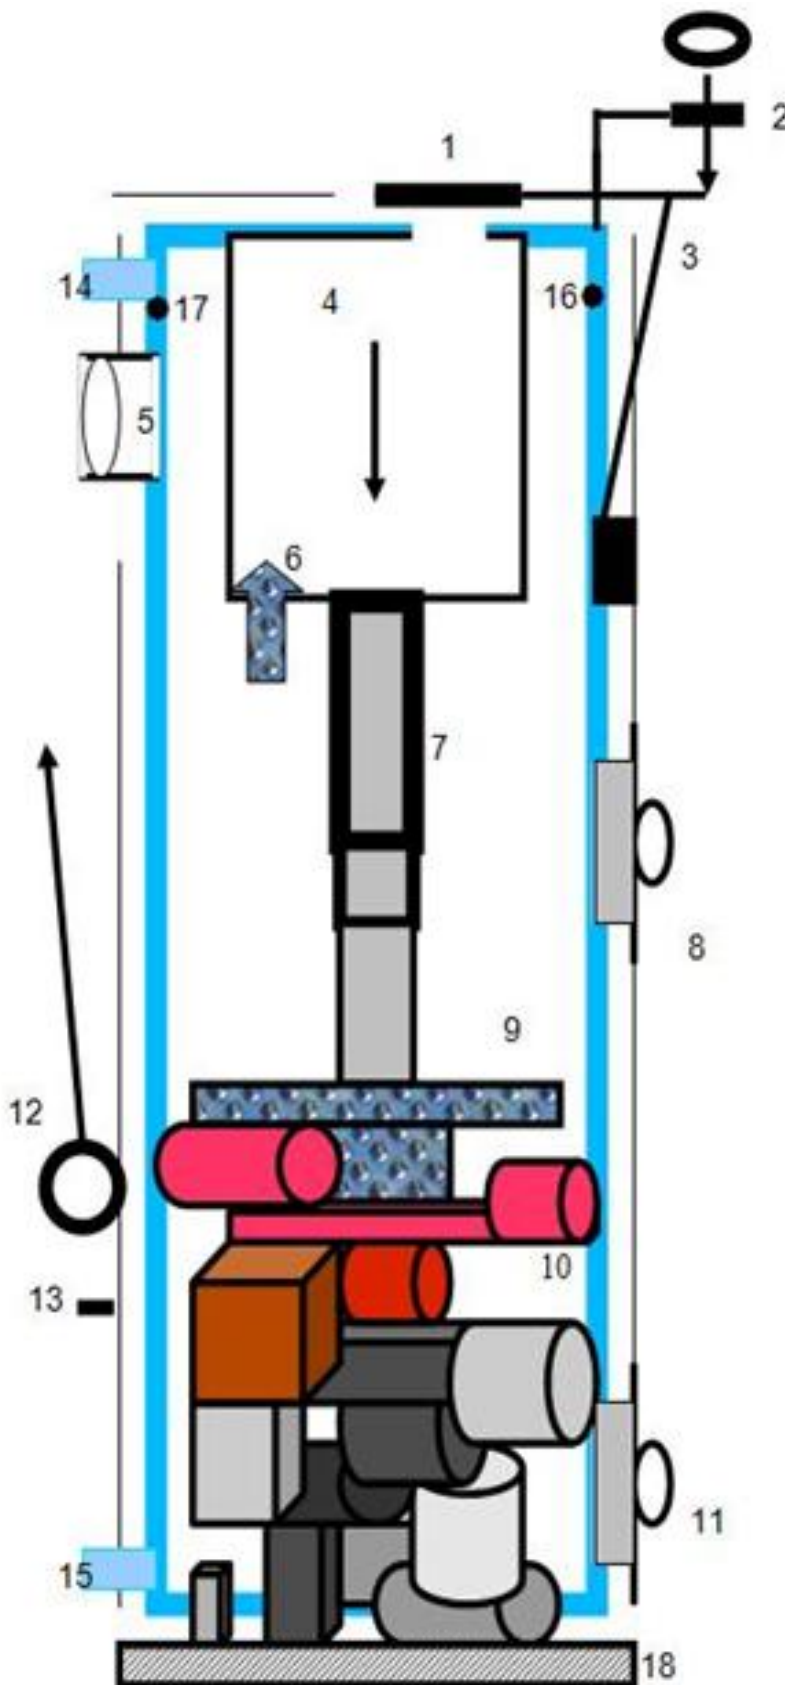

Fig. 2.1. Boiler diagram
The boiler (see figure 2.1.) is a steel cylinder covered by a steel cylinder of a bigger diameter, a structure is insulated. Bi-thermal draught regulator (2) with wooden stick (3) is at the front side of the boiler (see for details item No. 5.2.). Heated water is between the cylinders. A structure has openings for loading (8) of solid fuel (10), ash removal (11) and smoke extraction flue (5). There are also openings for water supply (14 - 15), thermometer (16) and pressure safety valve (17). Air heating compartment (4) for the improvement of combustion quality and heating transmission is mounted on the upper part of a combustion compartment. The boiler can be configured with grid bars and switching valve (6) for burning with peat or coal.
ATTENTION: 1,5 bar pressure safety valve involves into the opening (17) (fig. 2.1.). Instead trident (5), use a bend D25 SME (10).